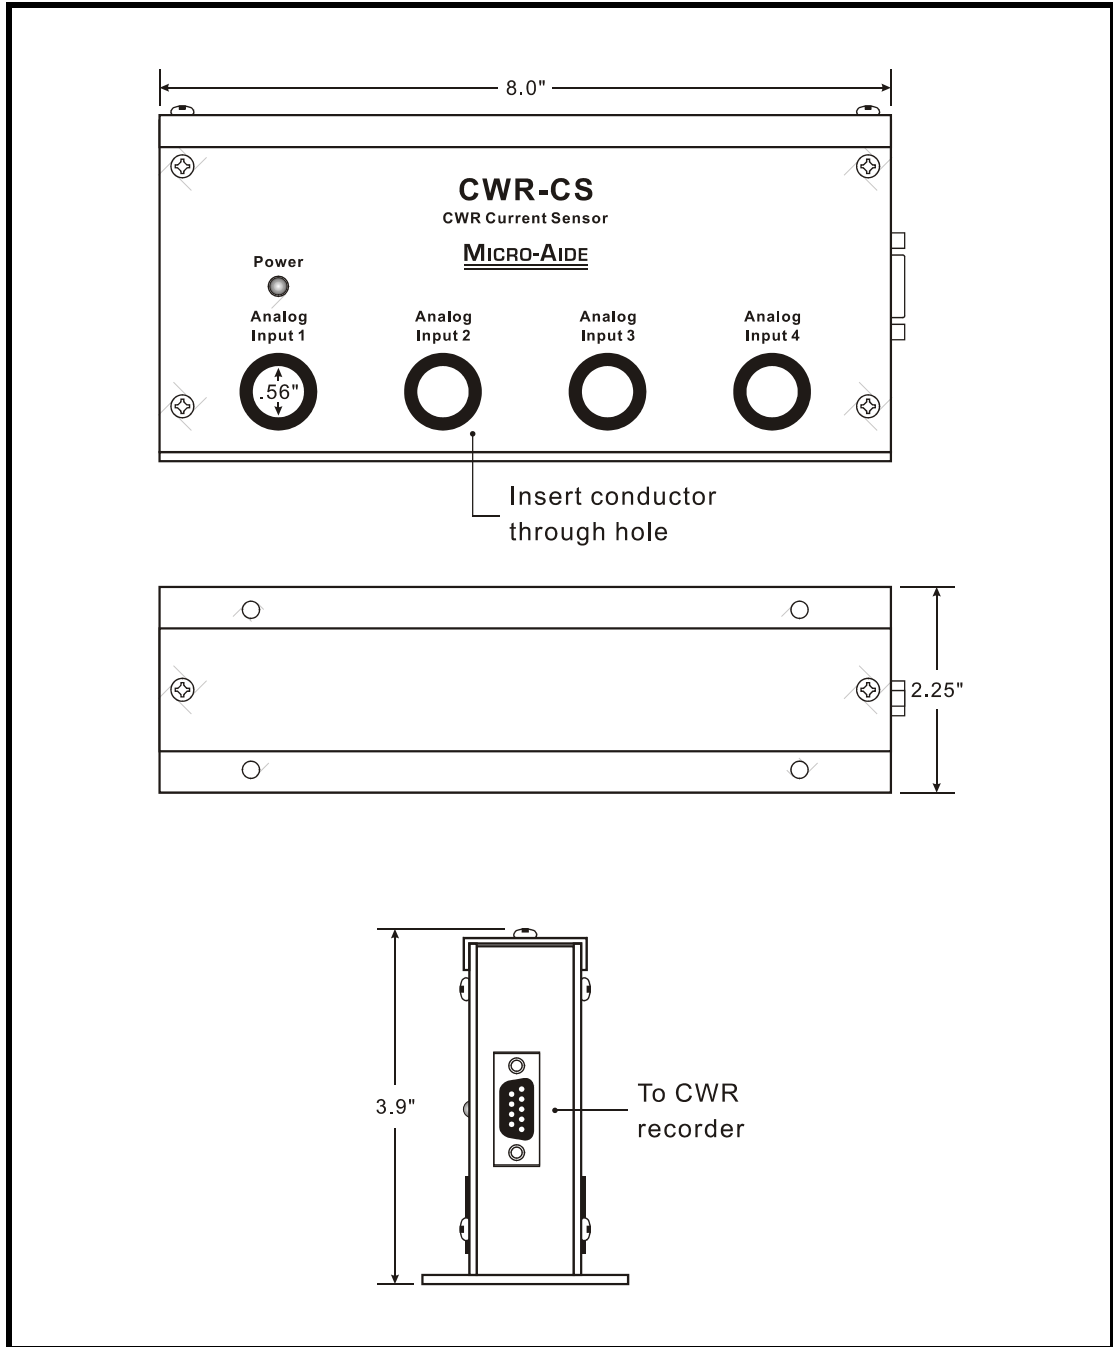

Figure 8 - CWR-CS Front, Top and Side Views
The CWR-CS is an optional accessory that can be used with any MICRO-AIDE CWR series Event Recorder. It is equipped with four general purpose current sensing inputs. Any of the first four Analog Inputs (i.e., A1 - A4) of the CWR-72 can be individually configured to measure either AC or DC current. Refer to the section entitled “Analog Configuration (A)” on page 26. The CWR-CS provides the hardware by which the voltage sensing Analog Inputs of the recorder are converted to current operation. Figure 8 on page 104 provides an illustration of the CWR-CS.
Figure 8 illustrates a typical CWR-CS installation. The unit may be mounted in any orientation (e.g., vertical or horizontal). It is not sensitive to the earth's magnetic field. The base of the unit provides four mounting holes. A shelf or back board makes an ideal mounting platform.